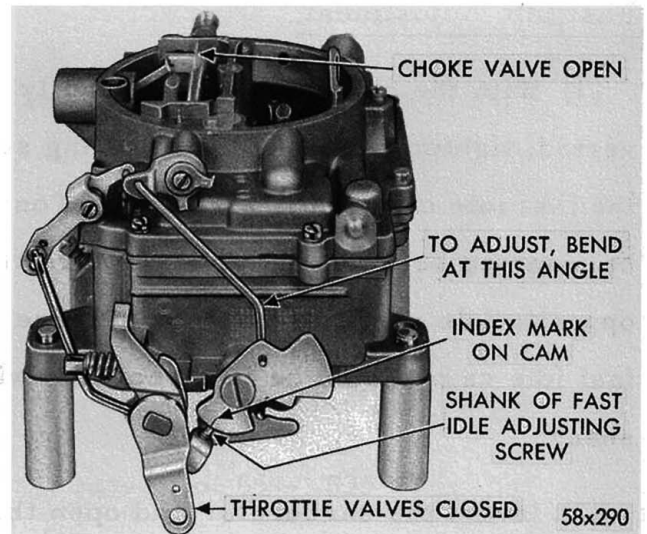

Fig. 2-Indexing Fast Idle Cam
(2) Invert the carburetor and open the throttle valves to wide open position. Close the choke valve tightly and then close the throttle valves. Release the choke valve. This will position the fast idle cam to fast idle. The index mark on the cam should line up with the center of the fast idle adjusting screw, as shown in Figure 2.
(3) If an adjustment is necessary, bend the fast idle connector rod at the angle, using Tool T-109-213, until the index mark on the cam indexes the fast idle adjusting screw.